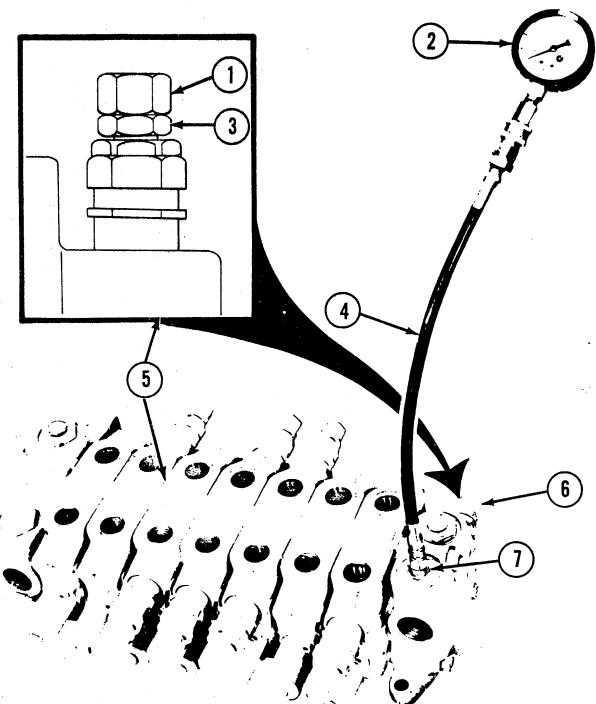

Figure 12
2. Install the pressure gauge, hose assembly, and adaptor from the ND-112-F Tester Kit, as shown in Figure 12.
1. Loosen the lock nut (3), Figure 12 on the relief valve.
3. Turn the adjusting cap (1) counterclockwise to decrease the pressure setting and clockwise to increase the pressure setting. When adjusting the relief valve, it must be reset to obtain a relief pressure setting of 2500 psi (172 bar).